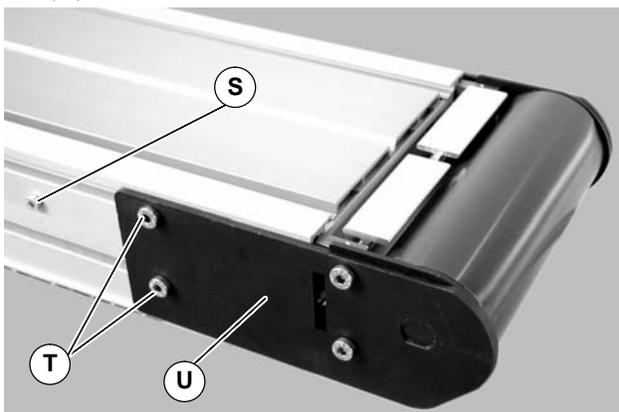
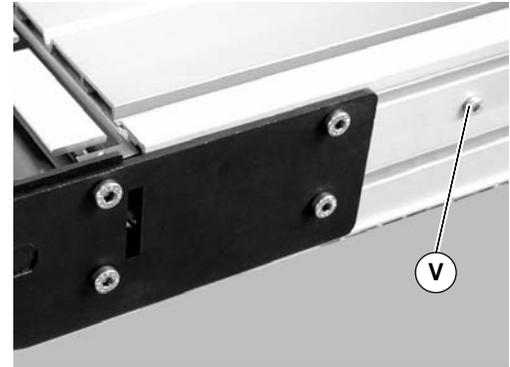

Figure 5
Figure 6
2. On tension end of the conveyor, identified by the pinion locking screw (S of Figure 5), push in head plate assembly (U): Loosen the pinion locking screw (S), adjust the pinion torque screw (V of Figure 6). On both sides of conveyor, loosen the two tail clamp bolts (T of Figure 5), and push head plate assembly (U) inward.